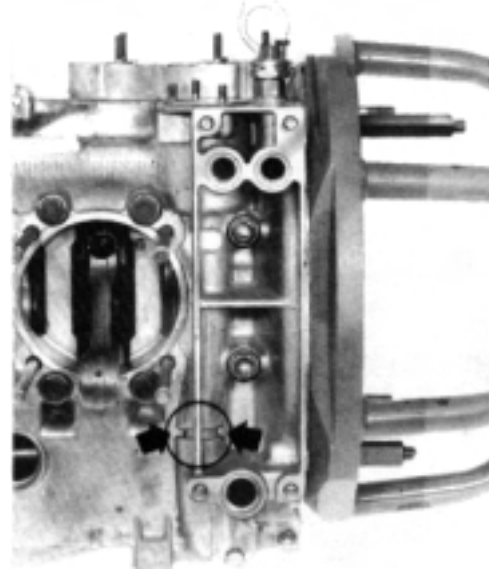

Figure 1
Oil leaks from the cast-in oil pipe in the right crankcase half (oil cooler area, Figure 1) can be repaired with engine removed or installed.
- Clean and degrease the crankcase thoroughly in the area of the pipe (circle in Figure 1) using acetone, alcohol or something similar.
- Apply a coat of Silastic 732 RTV sealing compound (Porsche PN 999 915 451 40) with light pressure uniformly until the depression (arrows in Figure 1) is filled. Smooth over the protruding sealing compound with a water coated putty knife or similar tool. Smoothing the compound is possible for a maximum of 5 minutes after application. Complete hardening time is 24 hours. Test running the engine will not disturb the hardening process.